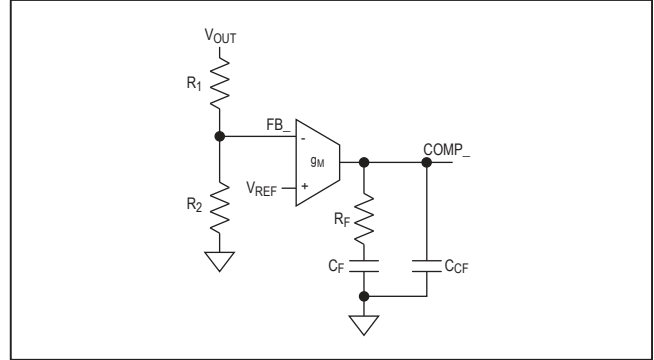

Figure 4. Type II Compensation Network
**Buck Converter Compensation Procedure 1 (See Figure 4)**